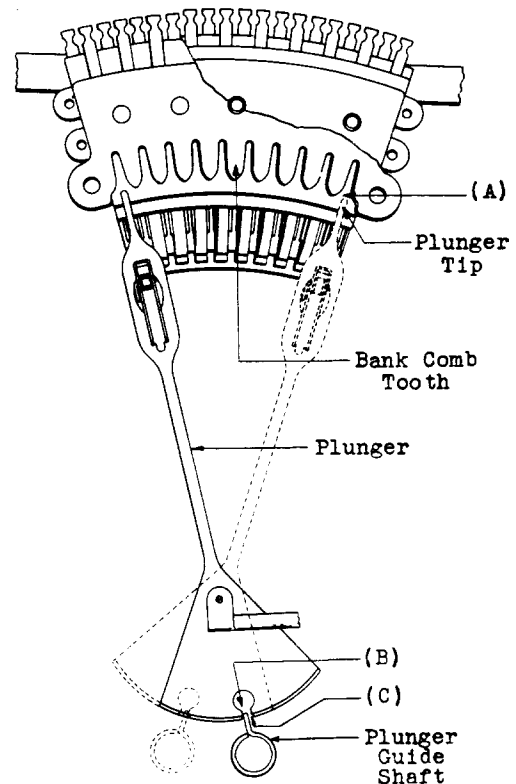

Fig. 4 — Relation of Plunger to Guide Shaft and Bank Comb
2.06 Plunger Oscillation: Fig. 4(B) — There shall be no observable change in the depth of engagement of the plunger guide shaft and the plunger fantail slot as the plunger oscillates under control of the guide shaft. Gauge by eye.
2.07 Fantail Slot and Plunger Guide Shaft Engagement: Fig. 4 (C)
2.08 Plunger Tip and Bank Comb Tip Clearance: Fig. 4(A)